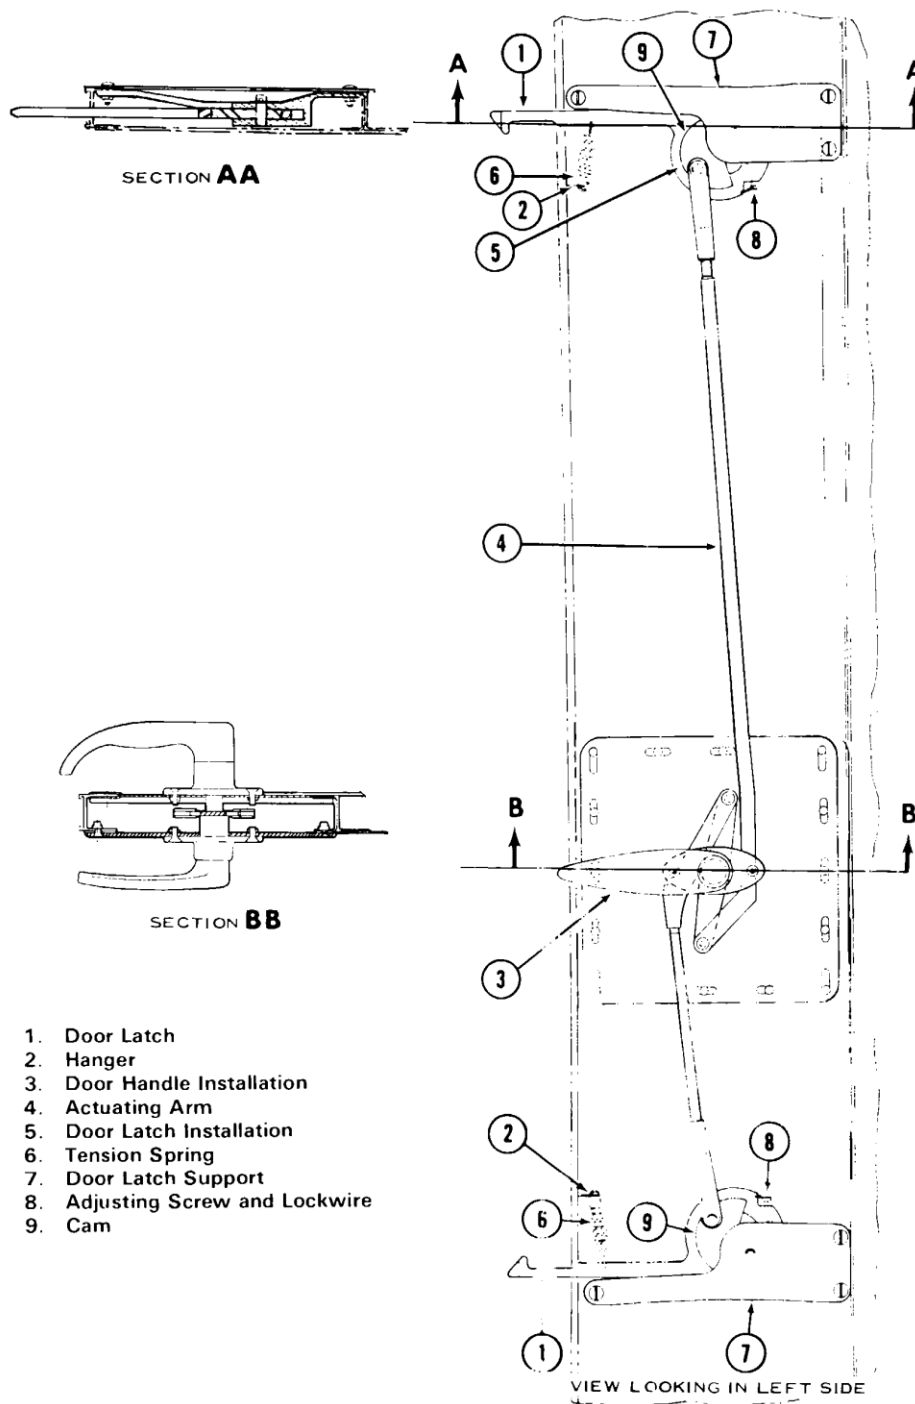

Figure 52-8. Passenger/Cargo Door Latch (Typical)
52.3.2.2.1 Insert door latch (1, Figure 52-8) in door latch support (7).